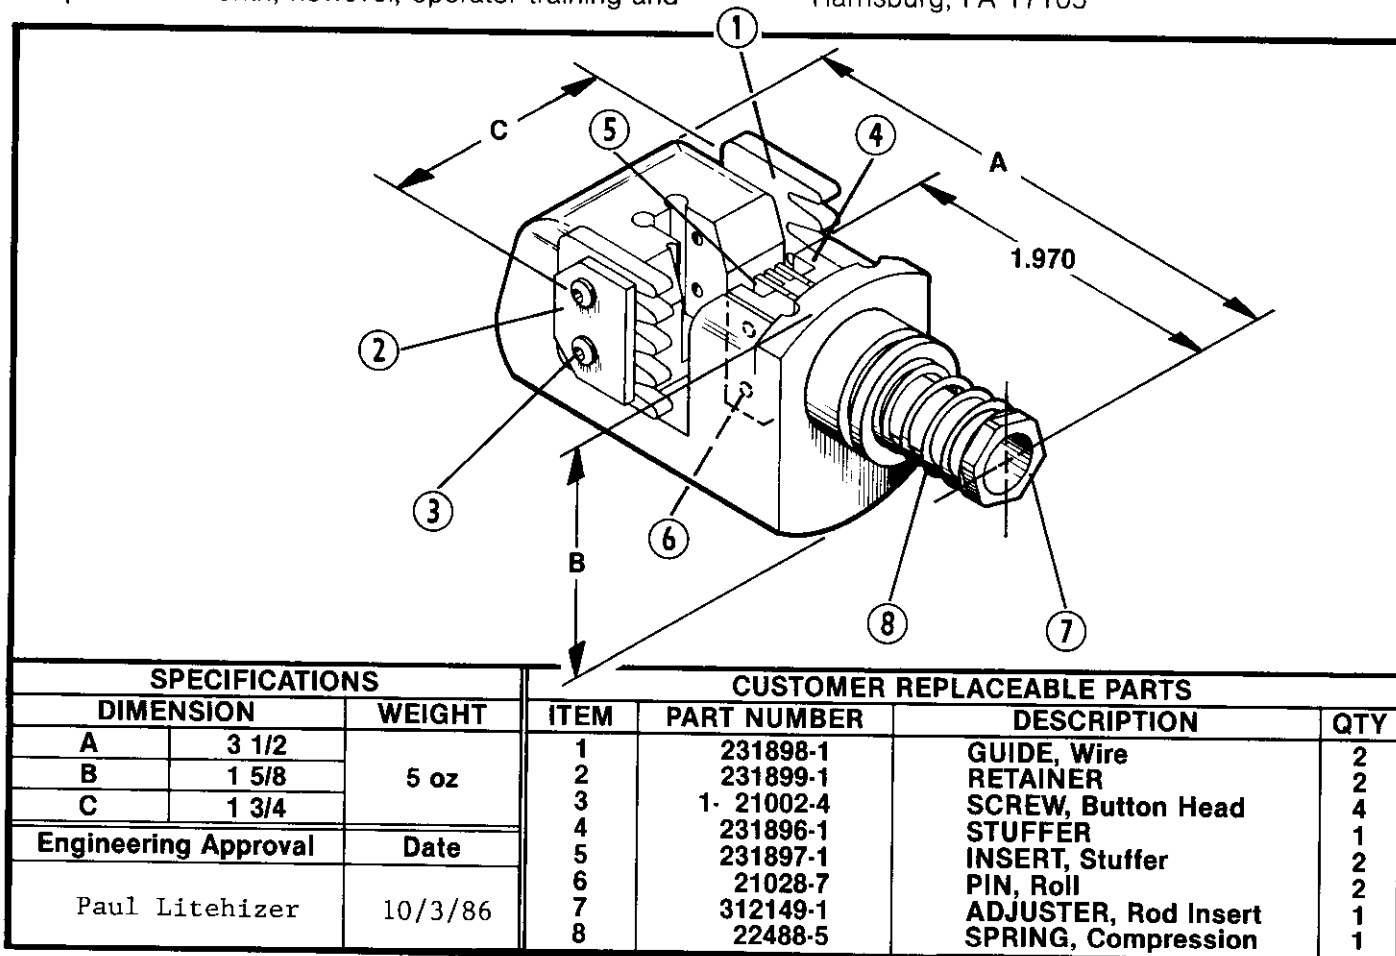

Fig. 5
2. Make sure all components are in place and properly secured. See Figure 5.
Customer replaceable parts are listed in Figure 5. Additional terminating heads can be purchased from: